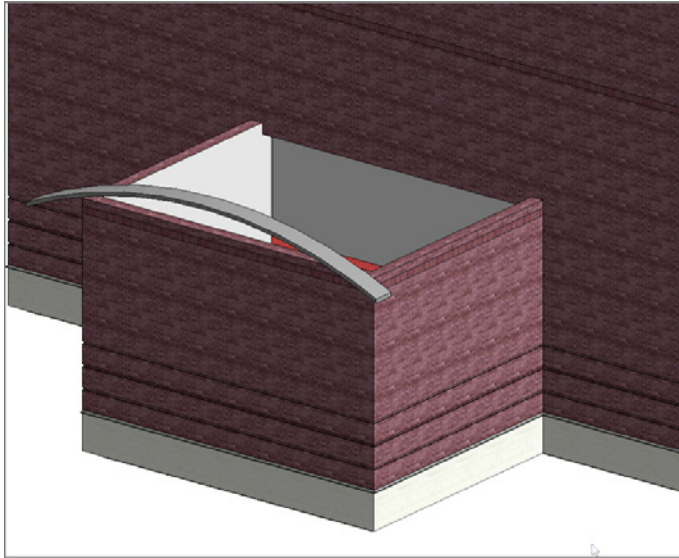

FIGURE 7.55: The almost completed canopy roof
5. Go to a 3D view. Your roof should look like Figure 7.55.